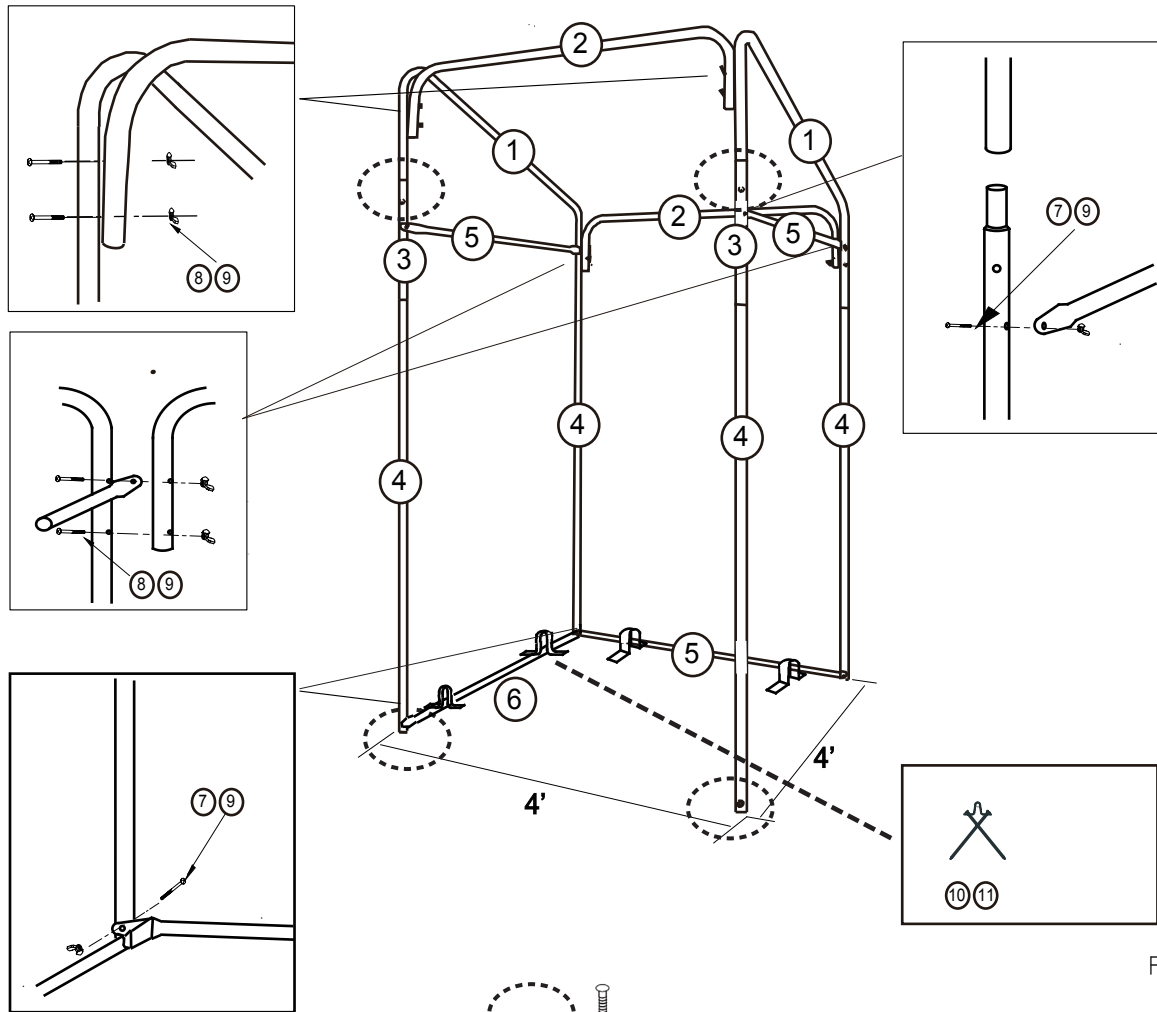

Fig. 1
- Assemble the tubes of the frame as shown in Fig. 1, the Frame Schematic Overview.